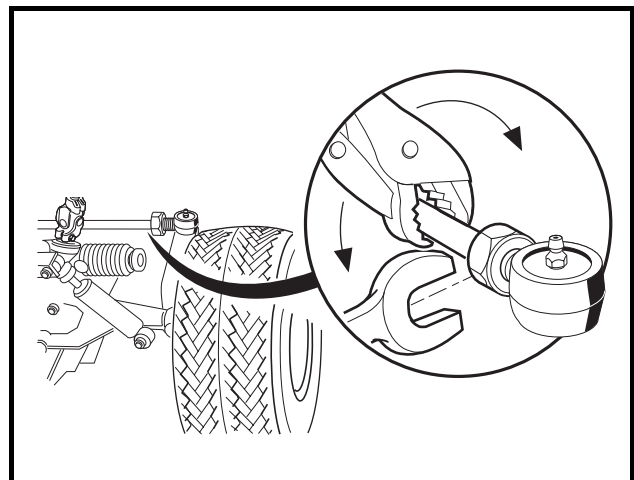

Figure 7-19 Adjust Toe-In
- If adjustment is necessary, loosen the jam nut on each tie rod ball joint and rotate the tie rod to increase or decrease toe-in (**Figure 7-19, Page 7-15**). **See following CAUTION.**